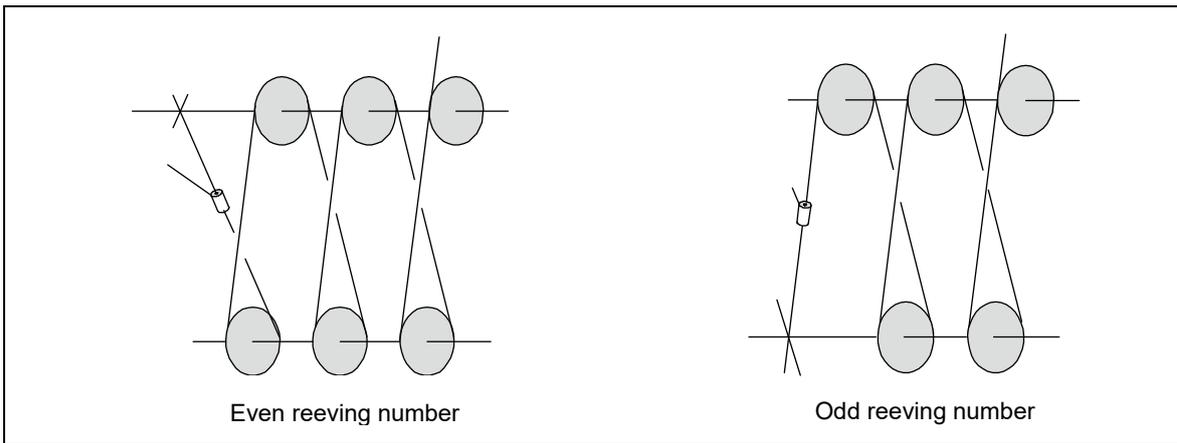

Figure 4-89 Location of hoisting limit switch weight
- (1) You must change the location of the hoisting limit switch weight if you have a different number of wire rope reevings. Refer to Figure 4-89.